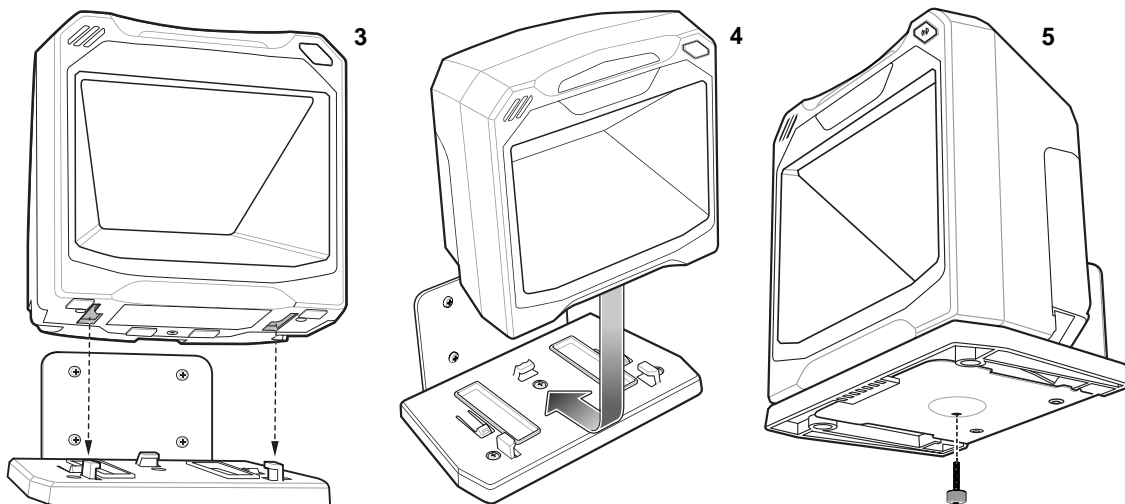

Figure 1-12 Wall Mounting Diagram - Mounting the Scanner on Bracket
7. *Figure 1-12* - 3: Invert the scanner slightly and align the mounting slots over the plastic tabs on the bracket.
8. *Figure 1-12* - 4: Insert the plastic tabs into the mounting slots on the scanner, and slide the scanner back until it clicks into place.
9. *Figure 1-12* - 5: To secure the scanner in the bracket, insert the thumb screw (provided) through the hole in the bottom of the bracket and fasten to the scanner bottom.